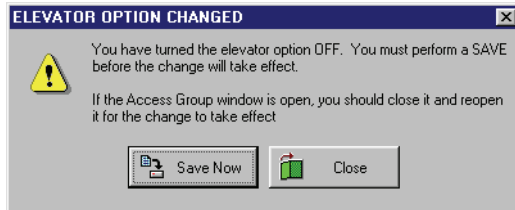
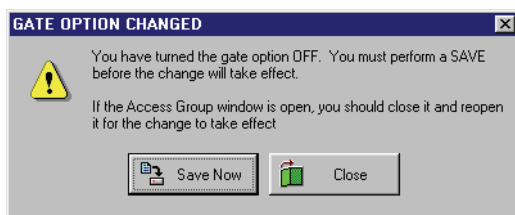
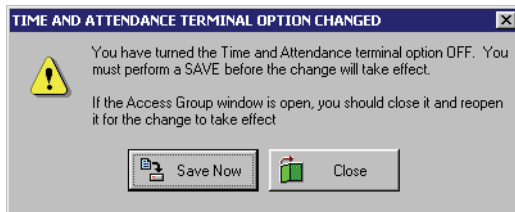

Figure 2-19: Elevator Option Changed Warning - OFF
Figure 2-20: Gate Option Changed Warning - OFF
Figure 2-21: Time and Attendance Terminal Option Changed Warning - OFF
1. To disable elevator, gate, or time and attendance terminal control, click in the corresponding check box. The check mark that was there disappears and one of the following windows appear, depending on which box was checked (see Figure 2-19, Figure 2-20, and Figure 2-21).